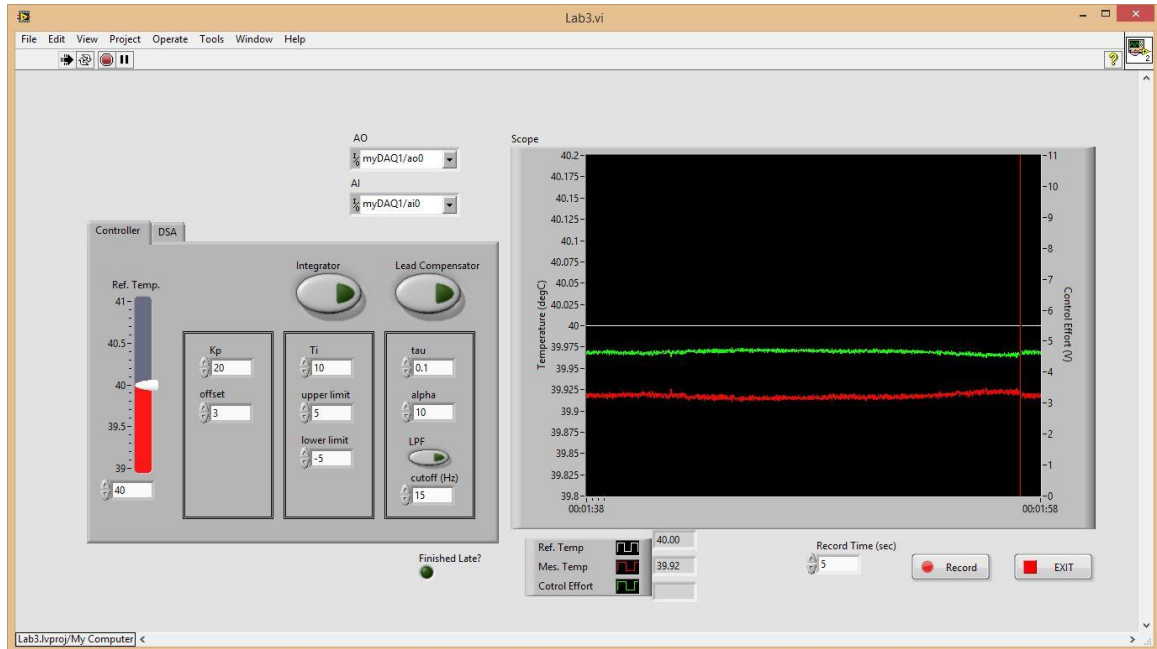

Figure 1 – Closed loop system stabilized with proportional control
1. Make your closed loop system stable by implementing controller, such as P or PI, and wait until it settles down to steady state (Fig.1).